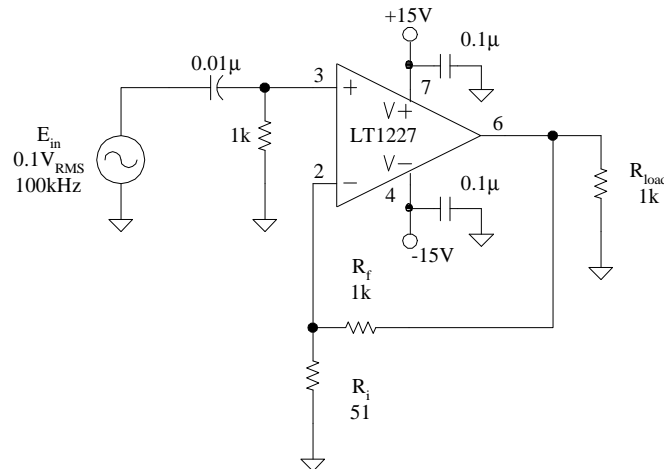

Figure 1 Current feedback op amp amplifier
1. Answer the following questions about the current feedback op amp (LT1227) used in circuit Figure 1.
- Build the current feedback op amp circuit in Figure 1 using your old white protoboards that you have used in the previous EET courses. You may use whatever breadboarding techniques which you have used in previous low frequency applications. You may connect the signal generator with alligator clips or bare wires.
- f. Build the current feedback op amp circuit in Figure 1 using your rf breadboarding technique. Be sure to make proper use of the ground plane, keep all leads as short as possible, and use BNC connectors and cables to bring signals onto and off of your board.